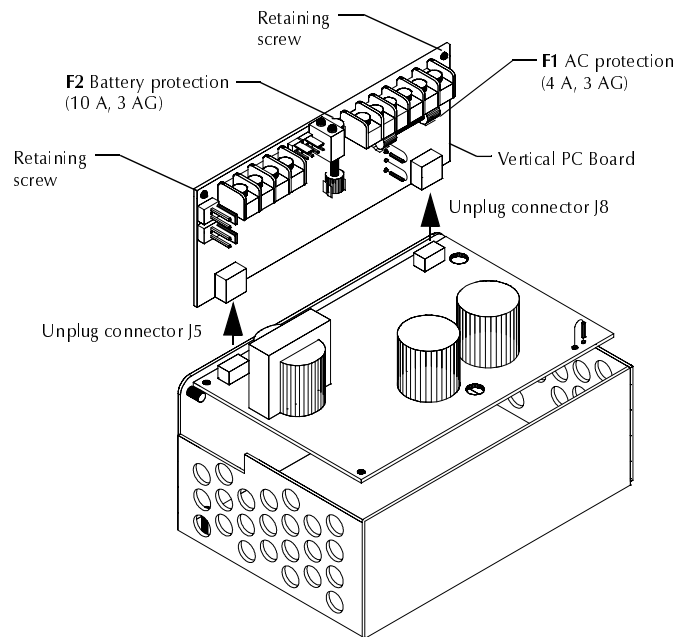

Figure 9 Servicing the APS-6RF
Servicing the APS-6RF	Figure 9 on page 13
2. Remove the two retaining screws (Figure 9).
3. Unplug the vertical PC board from the connectors as shown in Figure 9.
Figure 9 contains an exploded view of the APS-6RF that shows how to remove the APS-6RF PC boards from the chassis.